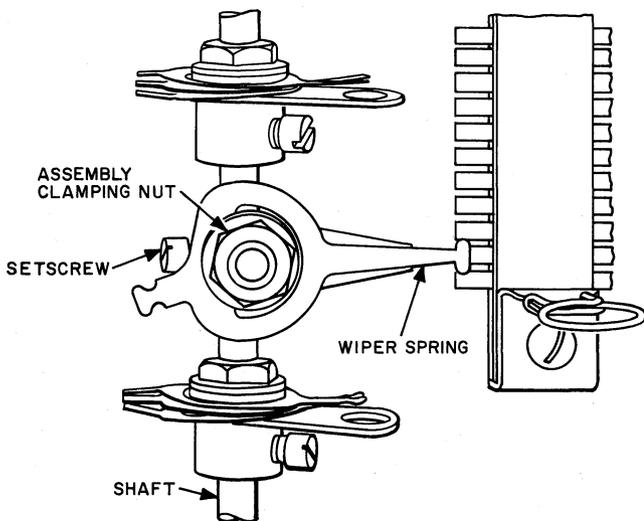

Fig. 14 - Commutator Wiper Alignment
(1) Where commutator wiper springs are assembled to the hub with an assembly clamping nut, as shown in Fig. 14, align the commutator wiper horizontally as follows. Loosen the assembly clamping nut with the 417A wrench and move the tip of the wiper spring up or down until the center line of the spring is at right angles to the shaft. Then tighten the clamping nut securely. On the later type of commutator wipers, the position of the wiper spring with respect to the hub is not adjustable; therefore, where the wiper is not in proper horizontal alignment, replace the wiper as covered in Section 030-705-804.